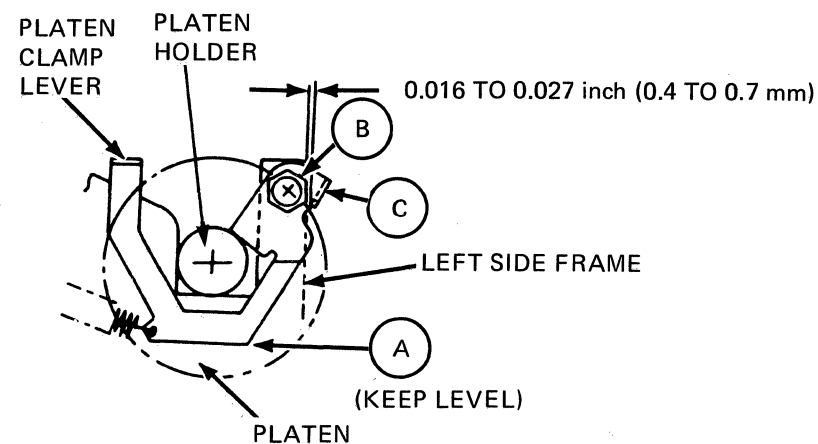

Figure 5-9 Platen Clamp Lever Adjustment
- With the platen mounted in place, bring the bottom (see Figure 5-9, letter A) of the platen clamp lever to a level position by turning the eccentric bushing B. Push up and down on the clamp lever while turning the eccentric bushing B.